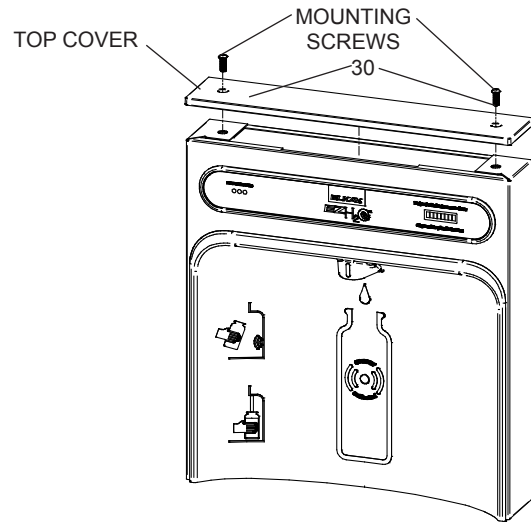

Fig. 9
- 1) **Remove two (2) mounting screws** with 5/32" Allen wrench holding top cover to Bottle Filler (See Fig. 9). Remove top cover. Note do not discard mounting screws, they will be needed to reinstall top cover.
- 11) **Once Bottle Filler is installed** on wall plate tabs, water line, wire(s) and power cord are installed properly, push top of Bottle Filler toward wall and line up top cover two (2) holes.
- 12) **Reinstall Top Cover** on Bottle Filler (See Fig. 9) with two mounting screws from step 1 above. Caution, do not over tighten screws.